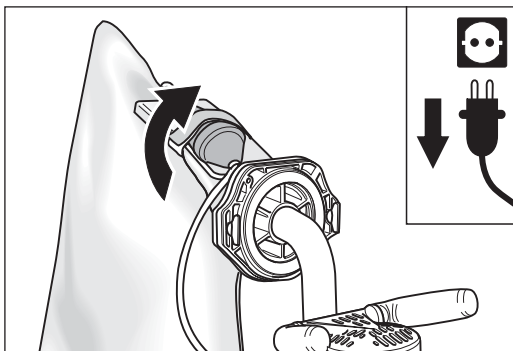

Fig. 21 Remove the coupler from the Velcro loop on the dust bag.
- 2 Remove the extension cable coupler from the Velcro loop on the dust bag (fig. 21).**